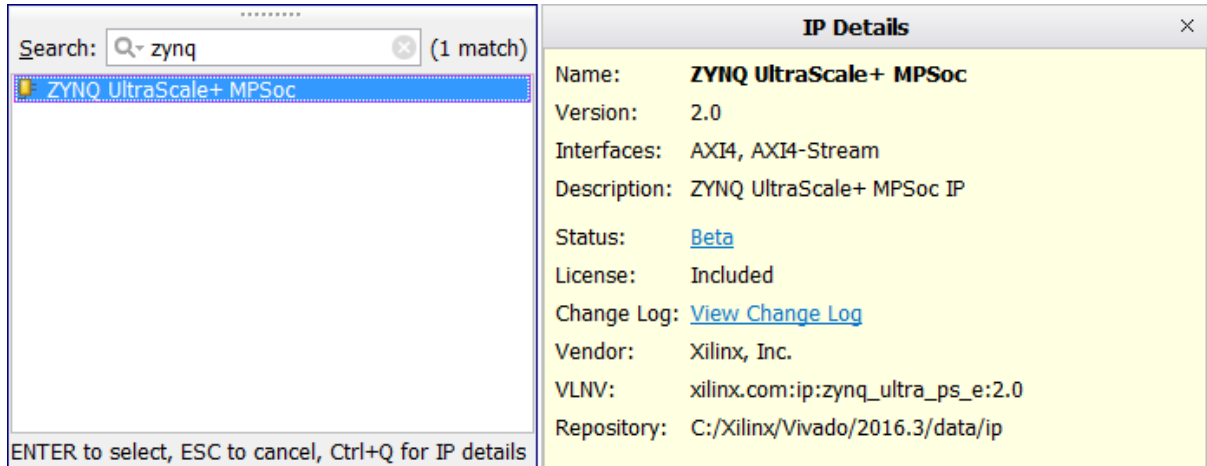

Figure 3-1: Search for Zynq UltraScale+ MPSoc in the IP Catalog
1. Select the **Add IP** option, and a Search box opens where you can search for, and select the **ZYNQ UltraScale+ MPSoc**, shown in Figure 3-1.